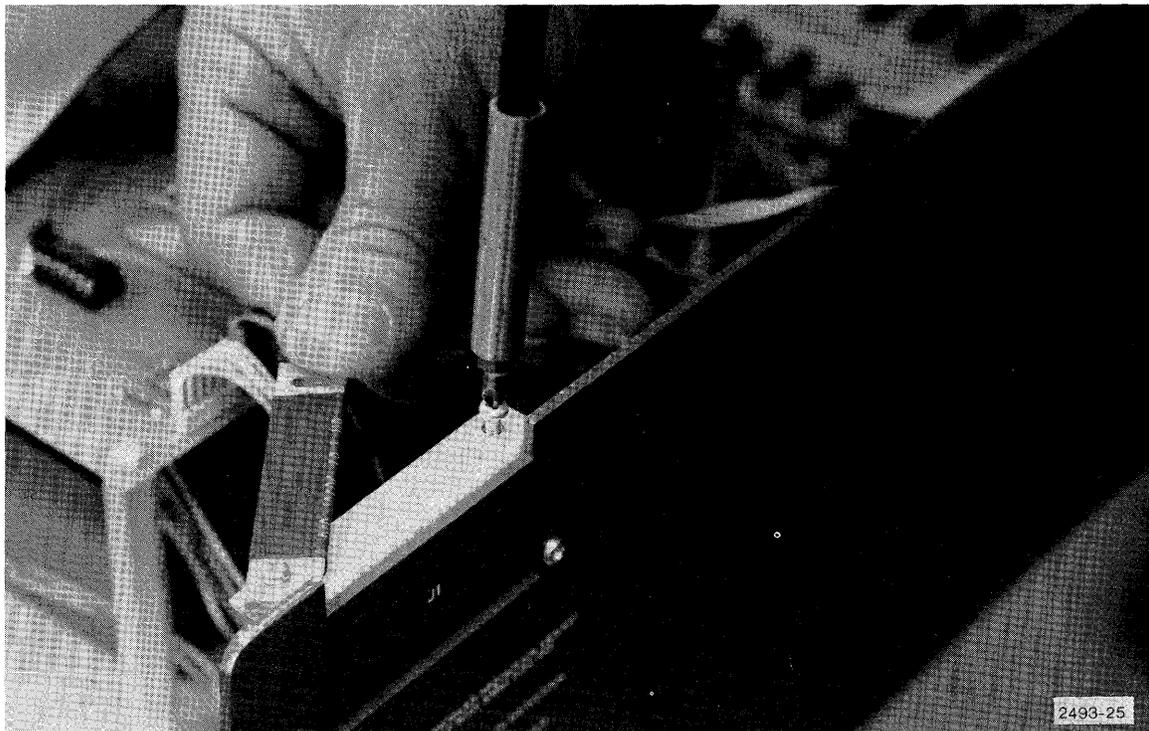

Figure 5-3. Installing strain relief cable and clamp assembly.
- g. Install strain relief cable and clamp assembly on main 4907 cabinet (Figure 5-3).